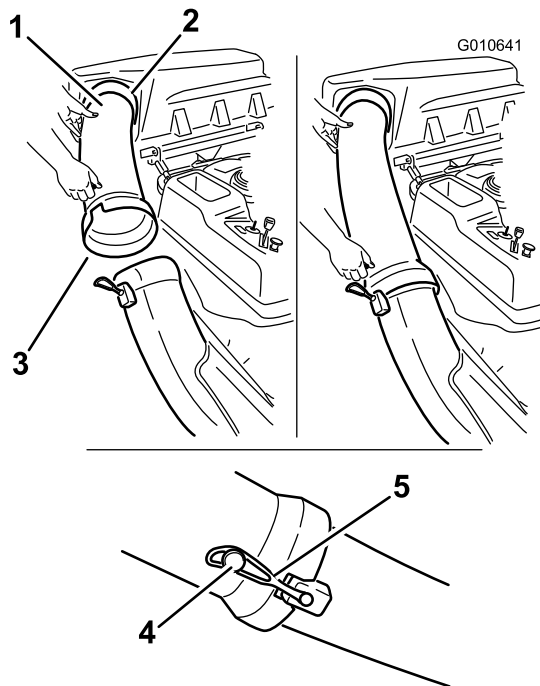

Figure 19
1. Slide the curved end of the discharge tube into the opening in the bagger top (Figure 19).
2. Slide the flared end of the discharge tube over the end of the chute. Move the rubber retaining strap on the chute snaps over the peg on the discharge tube to secure it (Figure 19).